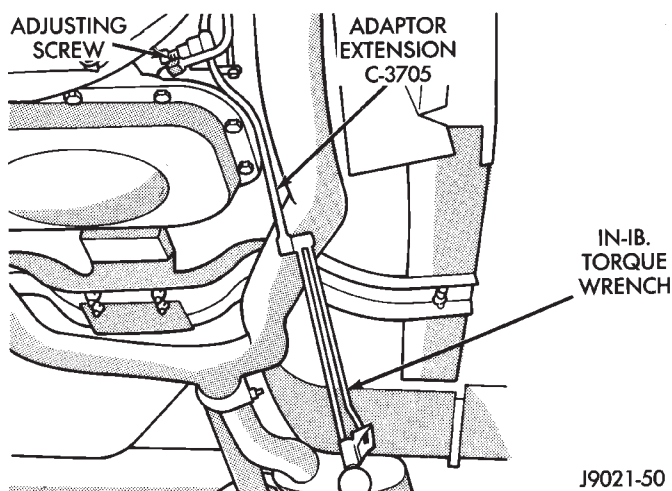

Fig. 7 Front Band Adjustment
(4) Tighten band adjusting screw to 8 N·m (72 in. lbs.) torque with inch-pound torque wrench. **If Adapter Extension C-3705 is needed in order to reach adjusting screw, tighten screw to only 5-6 N·m (47-50 in. lbs.) torque (Fig. 7).**
(5) Back off front band adjusting screw as follows:
(6) Hold adjuster screw in position and tighten locknut to 41 N·m (30 ft. lbs.) torque.
(7) Lower vehicle.